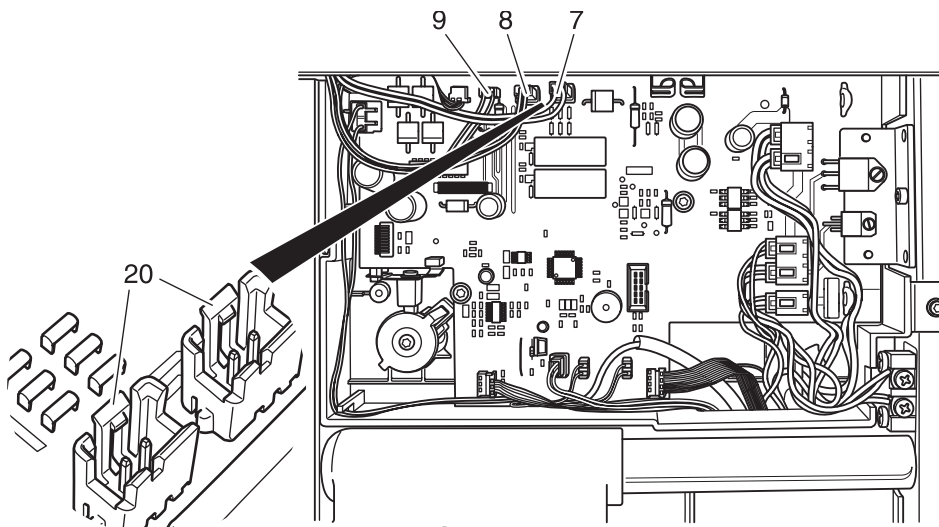

Fig. 1d
- Lift the catches 20 only 1-2 mm and disconnect plugs 7, 8, 9 (fig. 1d).